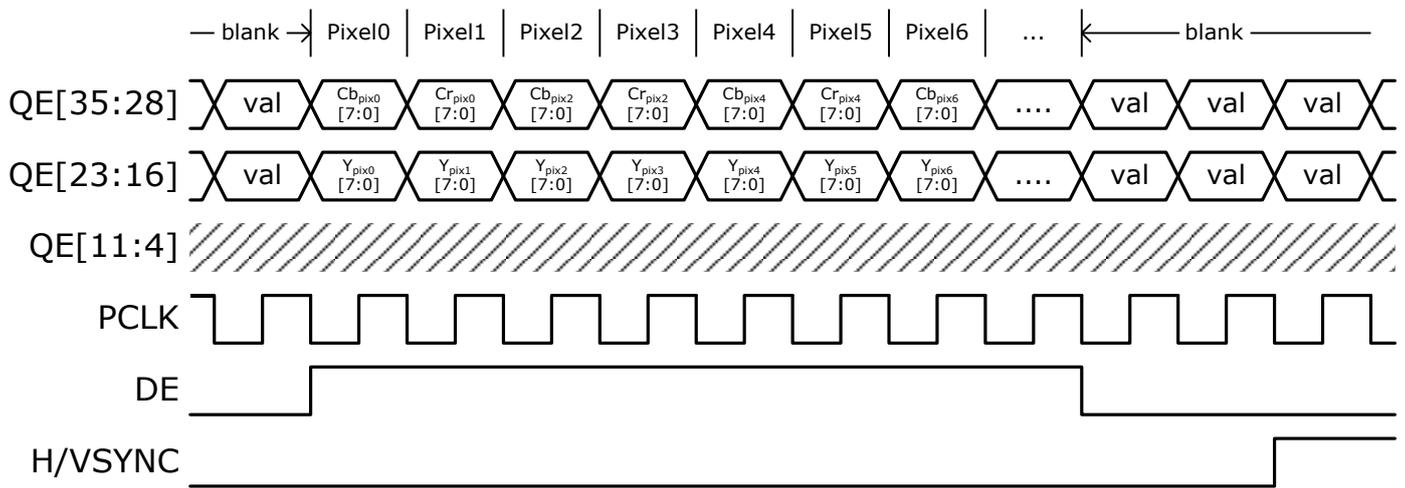

Figure 7. 16-bit YCbCr 4:2:2 with separate syncs
YCbCr 4:2:2 format does not have one complete pixel for every clock period. Luminance channel (Y) is given for every pixel, while the two chroma channels are given alternatively on every other clock period. The average bit amount of Y is twice that of Cb or Cr. Depending on the bus width, each component could take on different lengths. The DE period should contain an even number of clock periods. Figure 7 gives a timing example of 16-bit YCbCr 4:2:2..